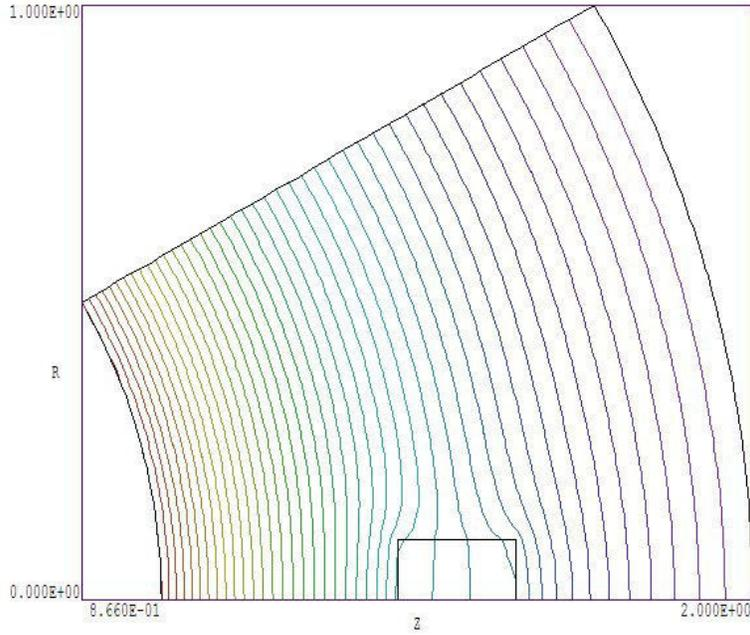

Figure 8: Special Neumann boundaries.
- **Neumann.** The normal derivative of the potential is specified. The boundaries in **HiPhi** are limited to the special case where  $\partial\phi/\partial n = 0$ . The special Neumann condition implies that the electric field is parallel to the boundary. One of the advantages of the finite-element method is that all boundaries that are not fixed automatically satisfy the special Neumann condition, even if they are slanted or curved. Neumann boundaries are often used to reduce computation time for symmetric systems. For example, Fig. 8 shows an equipotential plot for a solution of the fields between two spherical electrodes with a dielectric inclusion. By utilizing automatic Neumann boundaries at the top and bottom, we can limit the section to a fraction of the interelectrode volume.